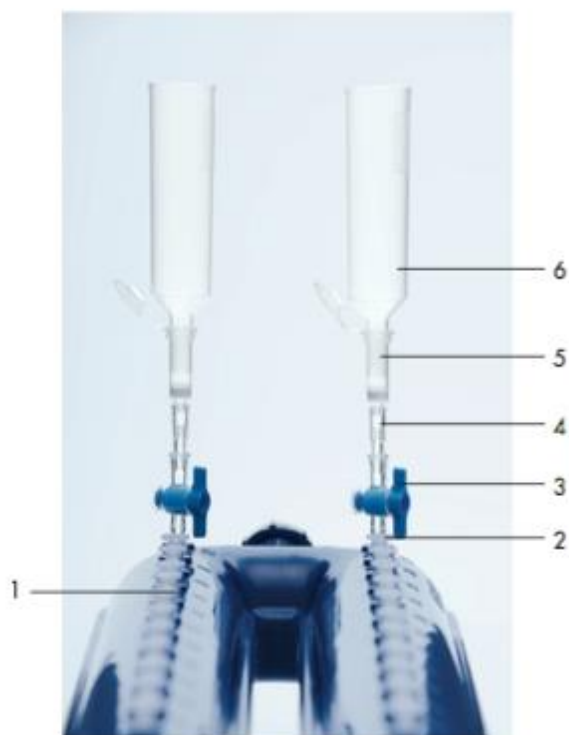

Figure 3. Setting up the QIAvac 24 Plus with QIAamp Mini columns using VacValves, VacConnectors, and Tube Extenders.
5. Set up as displayed in figure 3